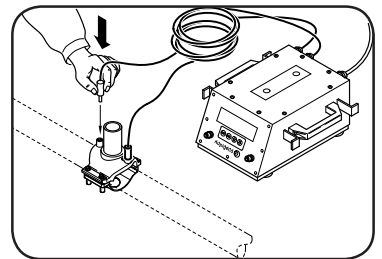

FIG.3
- 5 Connect the two cables of the electrofusion machine to the connectors of the branch saddle (see fig.3). Scan the bar code (see fig.6) with the bar code scanner or enter the welding parameters manually. ALWAYS CHECK THE WELDING PARAMETERS.